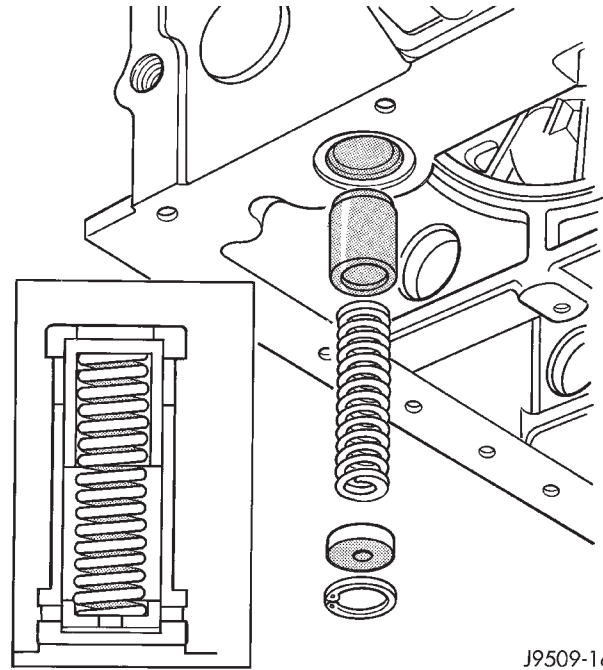

Fig. 39 Oil Pressure Relief Valve
- (1) Remove oil pan.
- (2) Remove clip retaining relief valve.
- (3) Remove relief valve cap, spring, and plunger (Fig. 39).